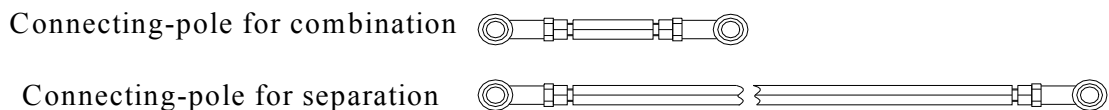

Fig 7.8.3
- d. In separation position, the connecting- pole must be replaced the longer one. Refer to Fig. 7.8.3 (The distance between the two fabrics should be over 12", from the middle of needle bed is each 6" to left and right side.)